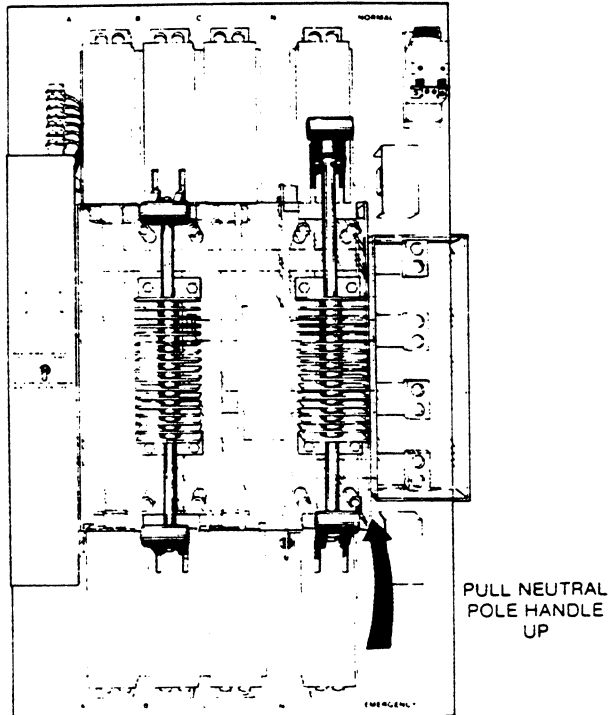

FIGURE 12.
2. Pull the lower neutral pole handle all the way up, as shown in Figure 12, connecting the load neutral to the neutral of the normal power source and disconnecting it from the emergency power source.